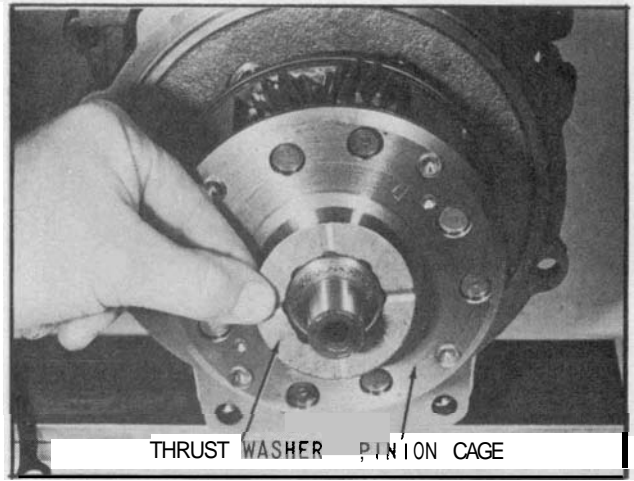

Fig. 21 Installing Pinion Cage Thrust Washer
17. Install thrust washer on the hub of pinion cage as shown in (Fig. 21).